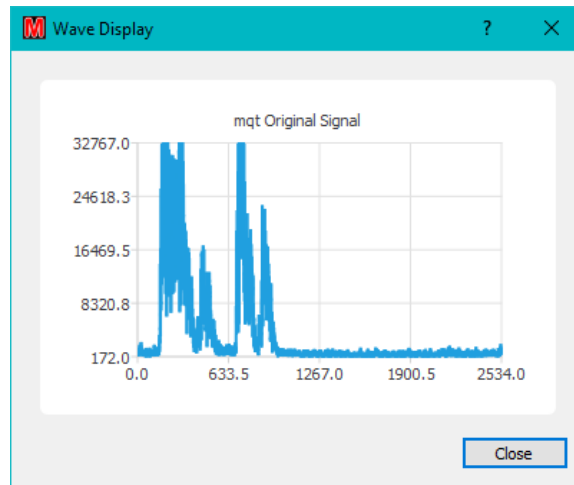

Figure 137 –Output displayed by the SHOW button
- “**Show**” provides a spectrum display of the recorded message(Figure 137)